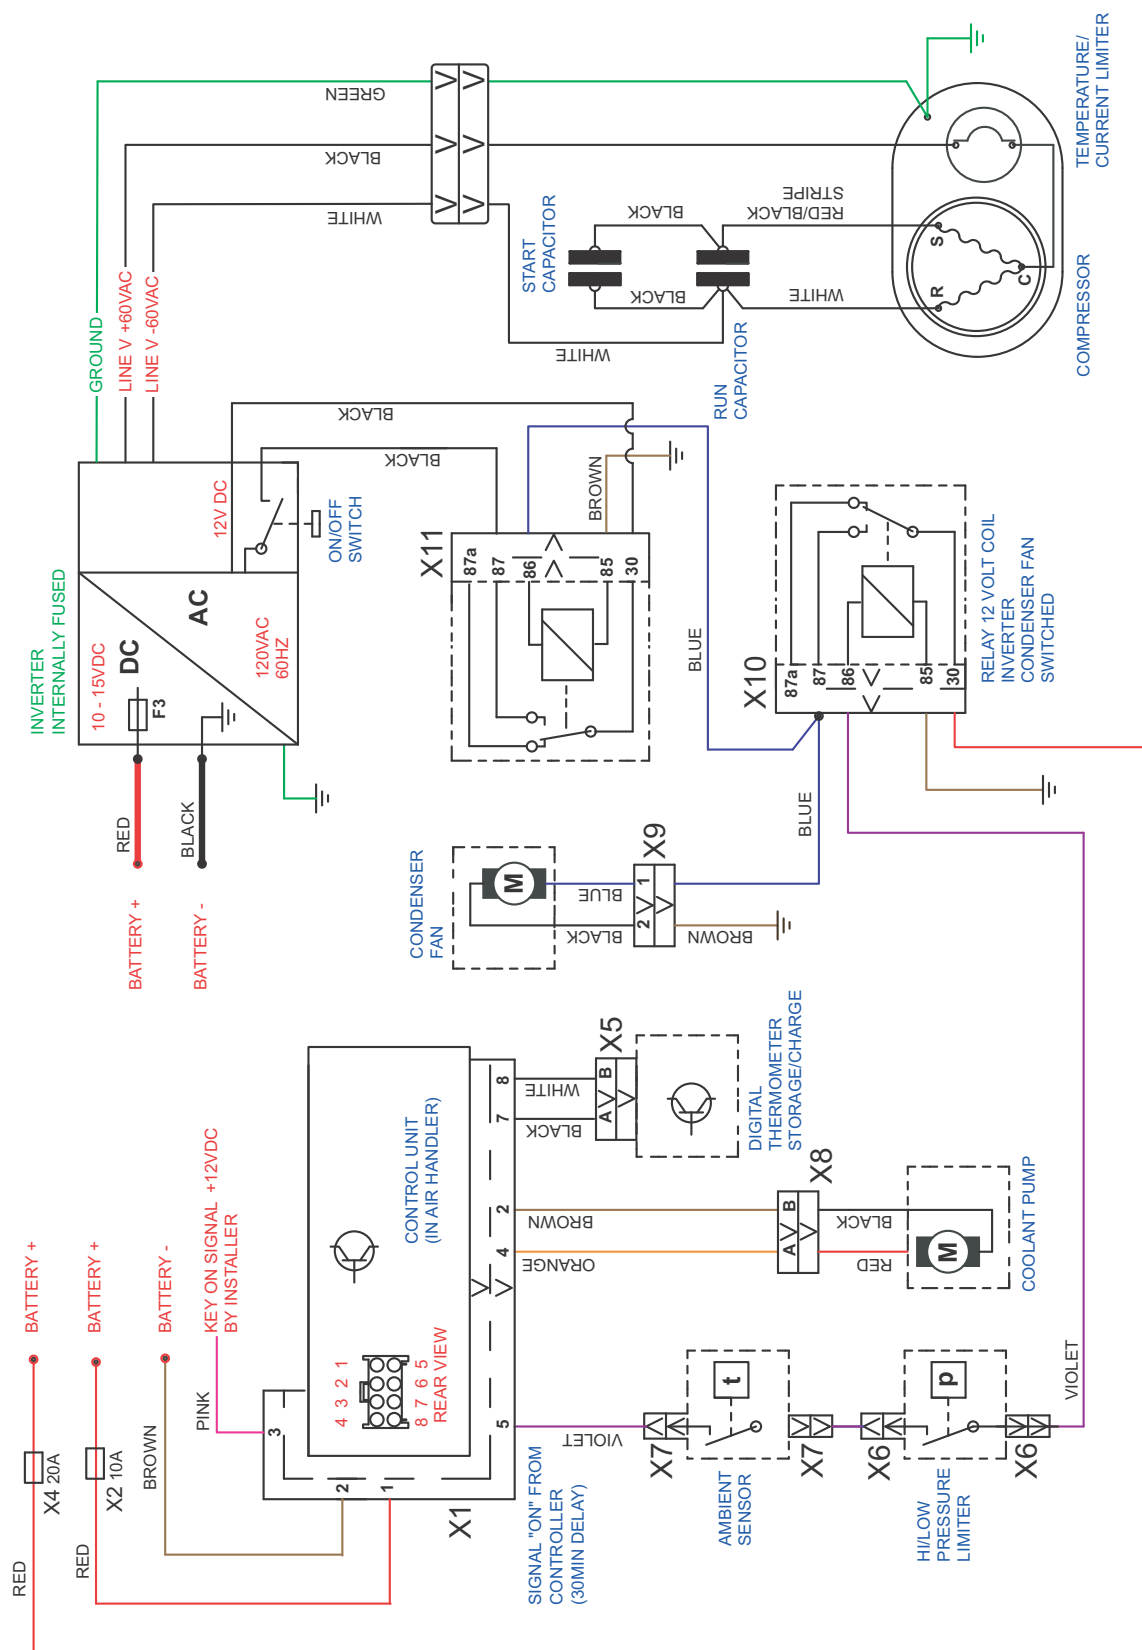

Figure 35. Wiring Schematic (Early Version)
Reconnect the run capacitor into circuit as before. (See wiring schematic in Fig. 35, on pg. 38.) Observe color code markings on schematic.
4. Disconnect wiring. Refer to Fig. 35, on pg. 38 when reconnecting wires after compressor replacement.